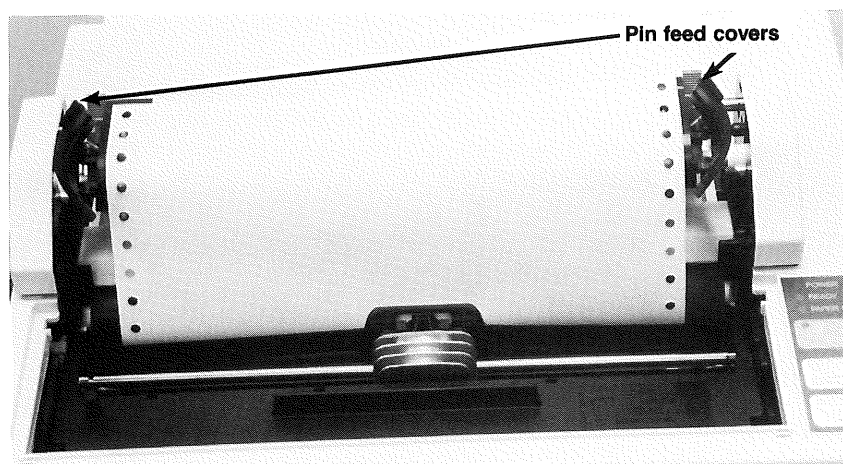

Figure 24.
38. Open the pin feed covers. Position the holes in the paper on the pin feed holders and close the pin feed covers. See Figure 24.